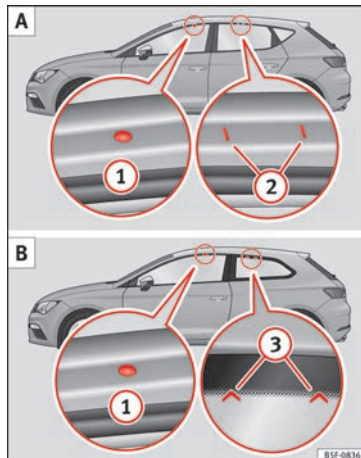

Fig. 183 Leon/Leon SC: attachment points for the roof railings for the roof carrier system. »
The front and rear attachment points ① and ② are only visible when the doors are open »» Fig. 183 A.
rear attachment points ③ are marked on the top edge of the glass with arrow heads »» Fig. 183 B.